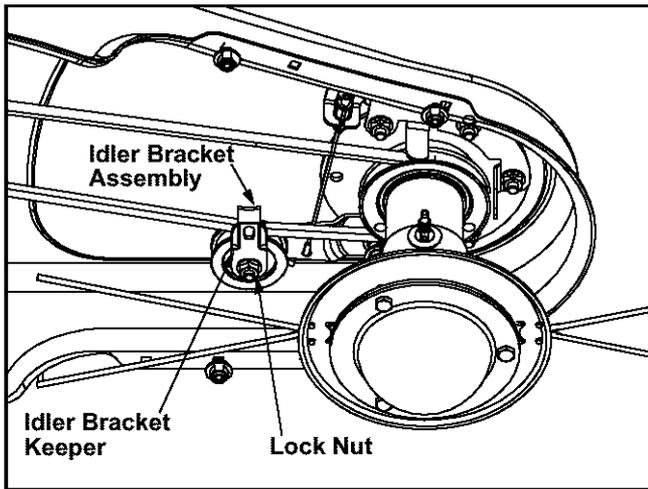

Figure 11
- Remove lock nut that secures idler bracket keeper and idler pulley to idler bracket assembly and remove keeper. See Figure 11.